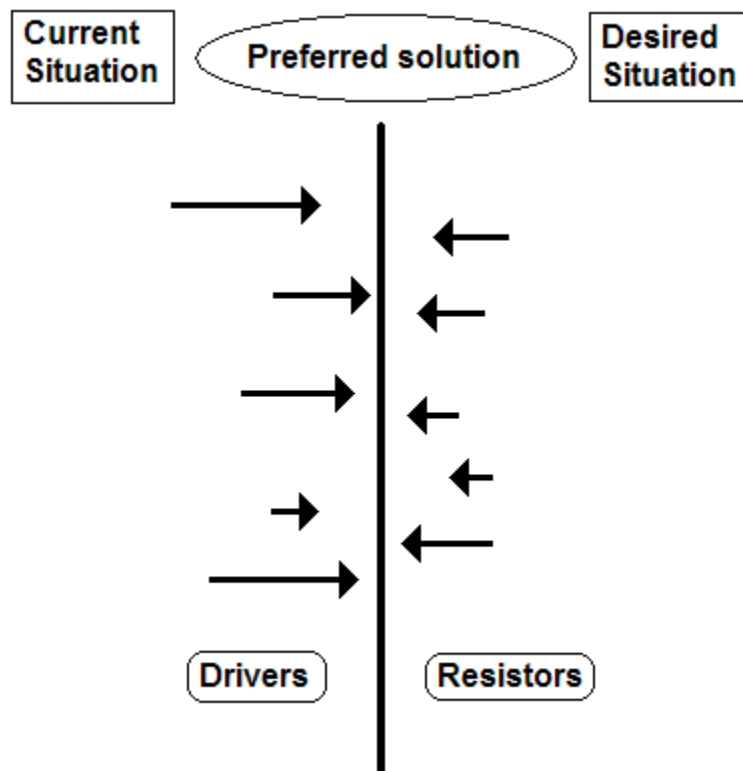

Figure 9: Template for a Force Field Analysis
1. Having stated clearly the current situation, the desired situation, the solutions that have been considered to close the gap, and the rationale for the preferred solution, draw up a force field template (see Figure 9).